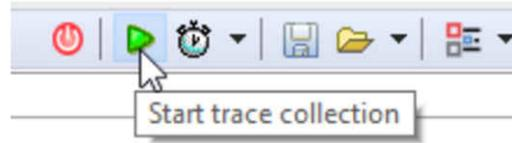

Figure 7-7. Start Trace Collection
- Click the green play button to start capturing data (see Figure 7-7). The red LED on the XDS110 debugger should be turned on, and will be so for the duration of the EnergyTrace capture.